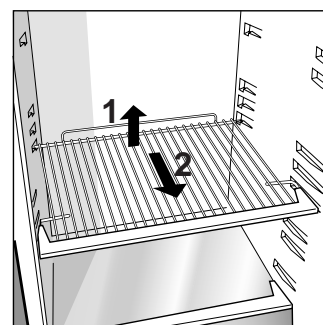

Fig. 1
- The refrigerator compartment of your appliance is fitted with practical, removable shelves (Fig. 1) whose height can be adjusted to allow for storage of large containers. These shelves can also be tilted for storage of opened bottles.